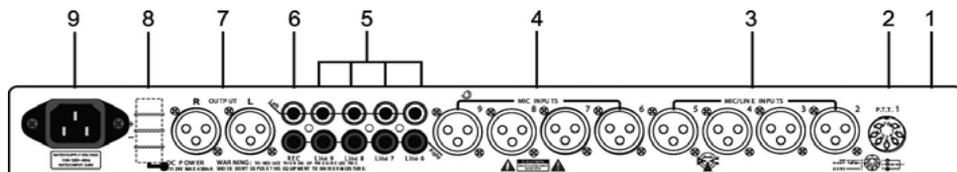

fig.2
- Inputs 6~9 use mono balanced XLR and stereo RCA connectors. XLR connectors (fig.2 ref.4) can be used for microphone connection only. RCA stereo connectors (fig.2 ref.5) are provided for line level sound sources (CD, TAPE, TUNER, etc.).
- The unit is provided with two XLR outputs (fig.2 ref.7) named Left and Right; these outputs can be used for a stereo diffusion or two mono diffusions as well.
- The same output signals of Left and Right XLR are present on RCA Left and Right connectors (fig.2 ref.6), for connection to a recorder.